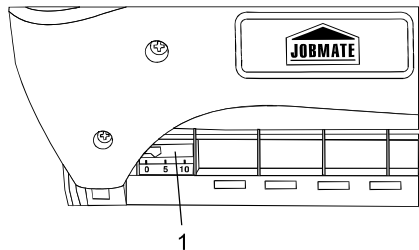

Fig. 9
When using the tool, you can view the magazine window (1) in the front of the magazine to see if you are about to run out of nails or staples (see Fig. 9). When there are approximately 10 nails or staples remaining in the magazine, the end of the strip will be visible through the magazine window.